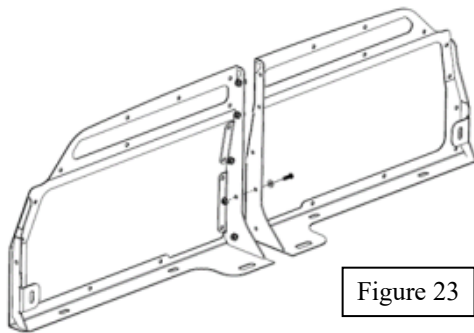

Figure 23
15. Get frames (**Item 1**) and put them together as shows on figure 23, using M6 hardware 13, 14 and 35.